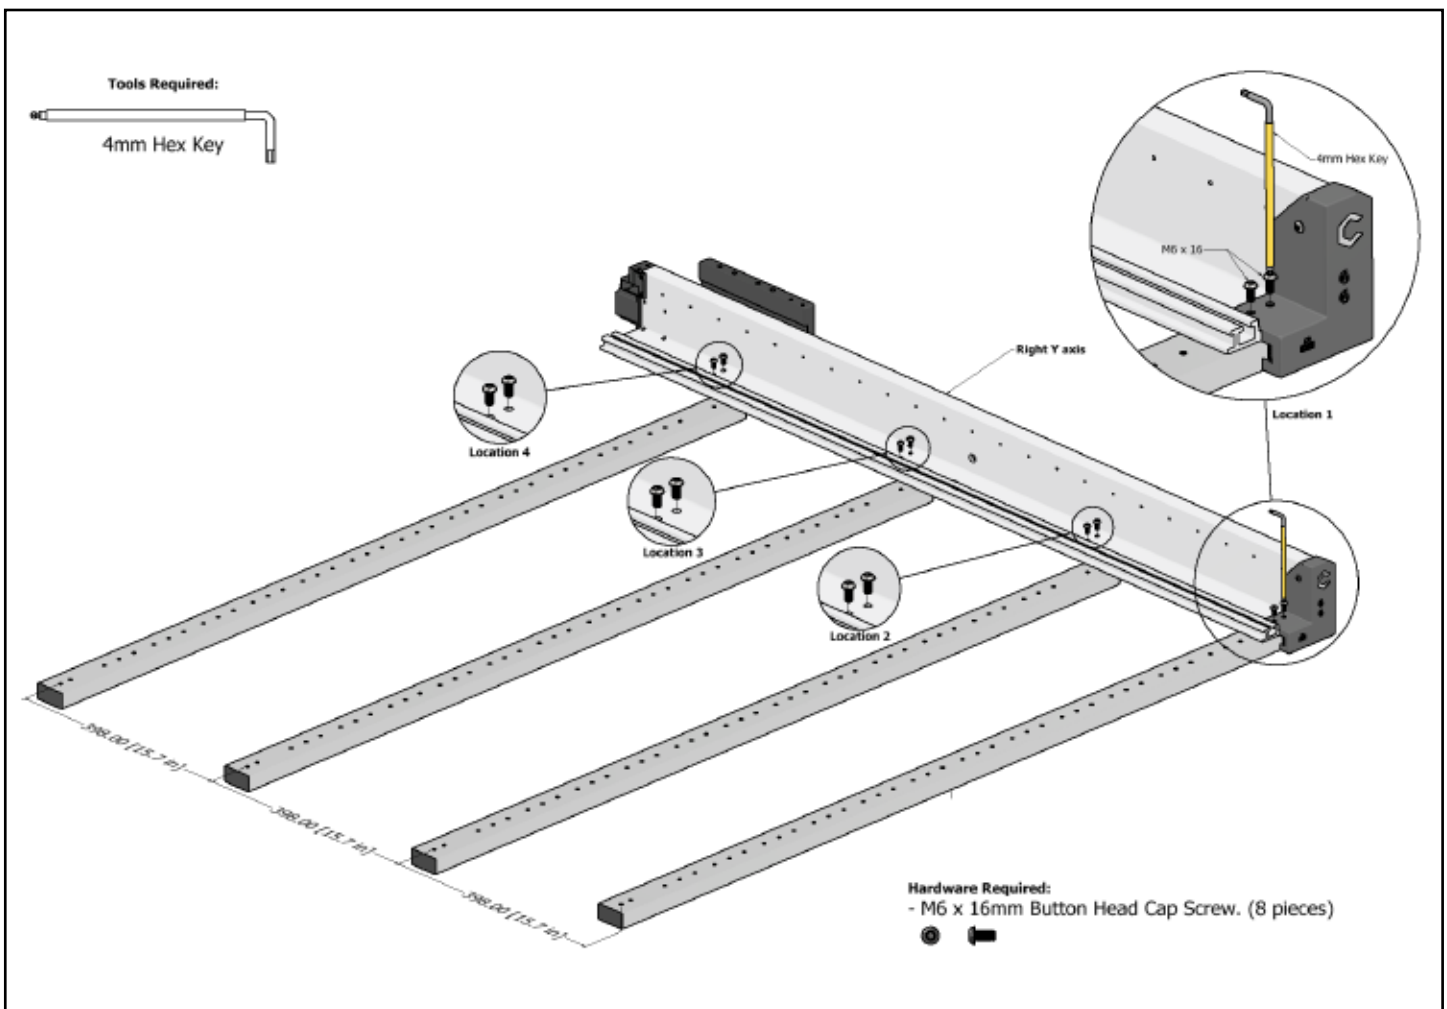

Figure 1-2
2. Set the Y-Right assembly on the right side of the baseframe. See Fig. 1-2.
3. Use a 4mm hex key and eight (8) M6×16mm BHCS to attach the Y-assembly. See Fig. 1-2. Snug the screws but don't fully tighten.